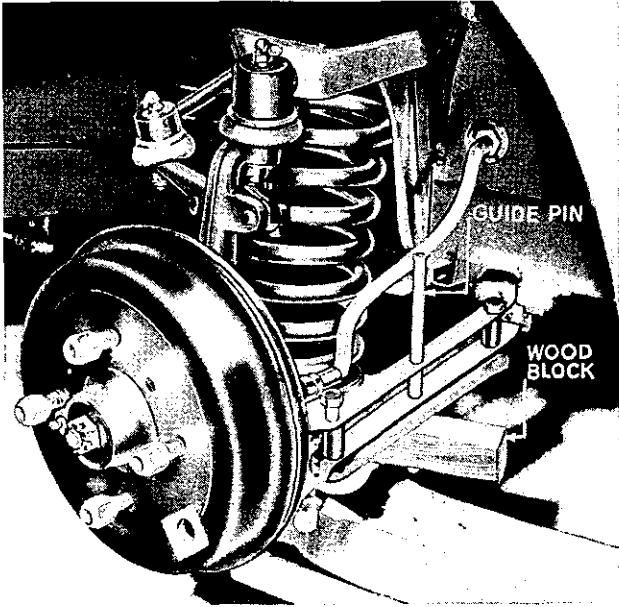

Fig. 3. Method of supporting spring pan whilst removing four outer securing bolts
8. Remove jack and place under centre of spring pan with a suitable packing as shown in Fig. 3 to provide clearance on the four shock absorber mounting studs. NOTE: One or two guide pins used.
13. Reassembly of the front suspension assembly is the reverse procedure to the foregoing *with the additional necessity for "bleeding" the brakes upon completion of reassembly*, and the employment of guide pins as shown in Fig. 3 when fitting the spring and pan.